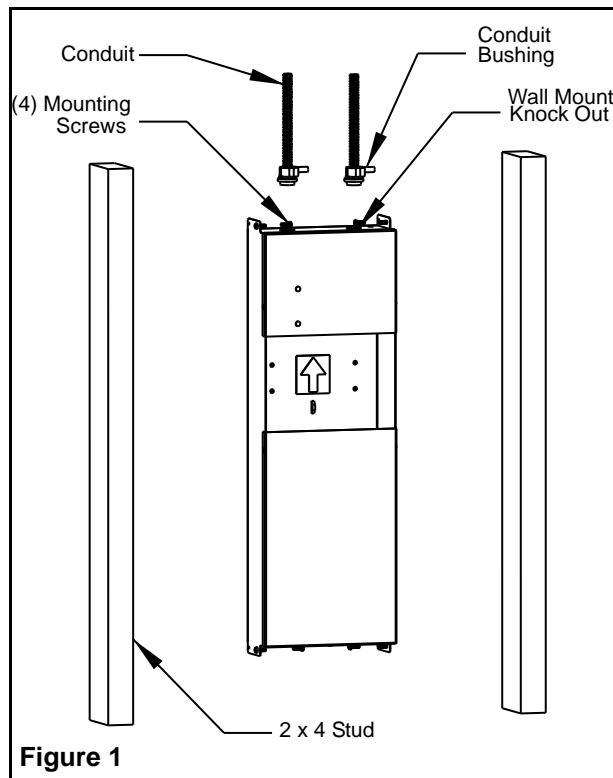

Figure 1
#### Wall Mount Back-Box Installation (Figure 1)
1. Knock out the hole(s) on top of the back-box for incoming cable(s) (AC line and/or DC emergency line). (Figure 1)
2. Position the back-box at the desired location to be flush with the front edge of the stud observing mounting orientation (Figure 1).
3. Use appropriate fasteners (not supplied) to mount the back-box on the stud (Figure 1).